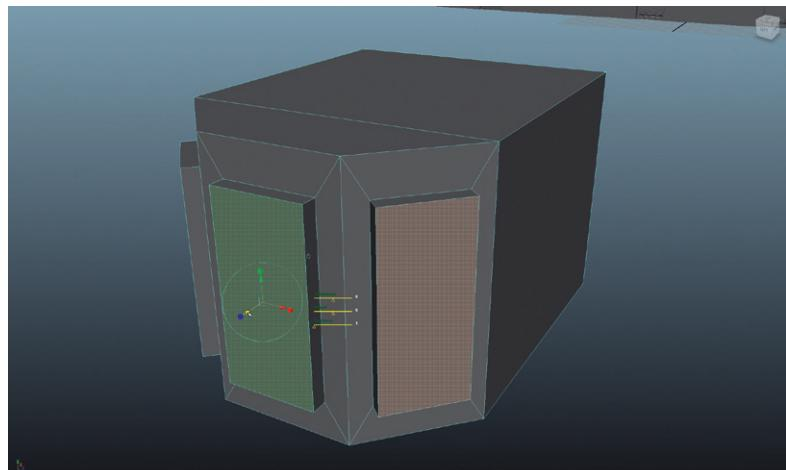

FIG 3.27 Creating depth for the windows via a second extrusion of the same faces.
Step 42: Give the windows depth. With these faces still selected, again choose Polygons>Edit Mesh > Extrude and pull this new extrusion back (the blue handle) a bit to give the windows a relief (Fig. 3.27).